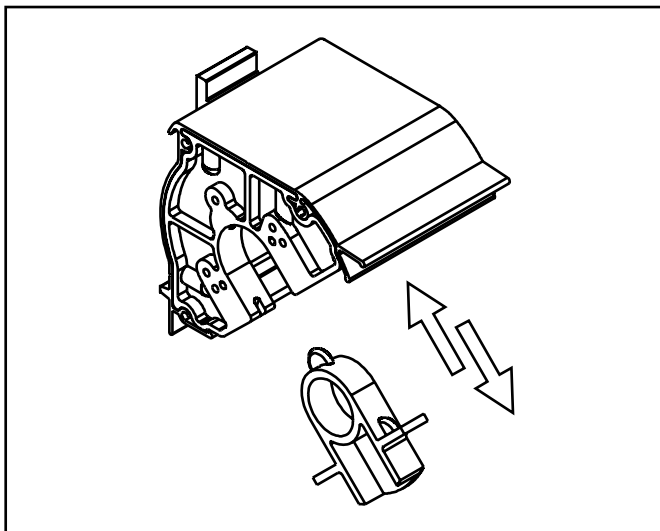

fig. 6 : Open bearing
- Consists of a bearing block (universal intermediate console) with a removable cover slide (see fig. 6).